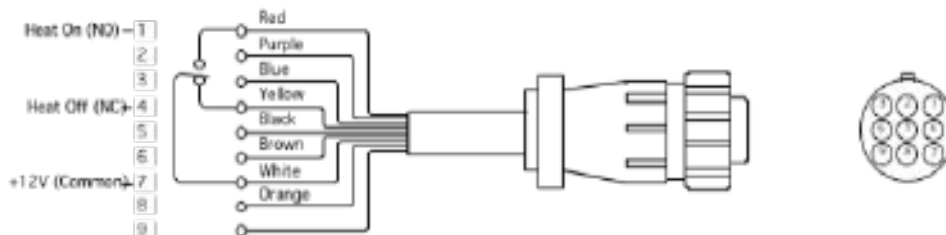

Fig. 5
**Note: The correct semiconductor fuse must be installed in the power supply. (See fig 5.). If for any reason a standard fuse or a slo-blo fuse is used, other problems may be causing the circuit breaker to trip and the information provided here may not apply. Remove the semiconductor fuse and verify that it is the correct fuse. Leave the fuse out for the following checks.**
2.1. Remove the semiconductor fuse from the fuse holder. (See Fig. 5). Verify that the correct fuse is being used. The fuse must be a fast trip semiconductor fuse (Magneforce P/N 32620 or equivalent). A standard or slo blo fuse does not provide the required protection and could result in damage or failure of other power supply components.
**HS2500R2C** - Check that the local/remote switch on the control panel is in the correct position. If using the pushbutton switch on the front control panel it must be off. If using an on/off actuator plugged into the remote jack the REM ON light should be on. **Note:** If using an on/off actuator to turn heating on remotely for the HS2500R2C the wiring for the actuator is different than for the HS2500R2. 2 SPST MOMENTARY NO Switches are required. (Fig. 5)